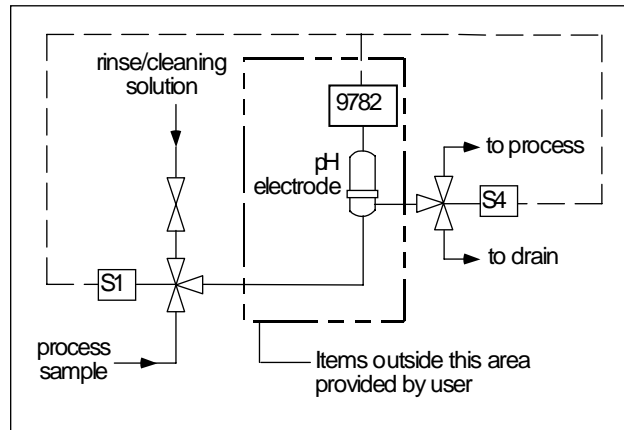

Figure 15-11 Automatic Electrode Wash Setup
- 2 Relay 1 activates 3-way solenoid valve S1 (see Figure 15-11) to direct rinsing fluid to the electrodes for the configured rinse duration (1 to 1999 seconds). If the measured sample is normally returned to the process but quantities of rinsing fluid cannot be tolerated there, use an additional 3-way solenoid valve S4. It is activated simultaneously with S1 to divert the discharge to drain.
Make the process connections as shown in Figure 15-11. Be sure that valves and fittings (S1) have sufficient pressure ratings to withstand pressure peaks which will occur when process flow is blocked.